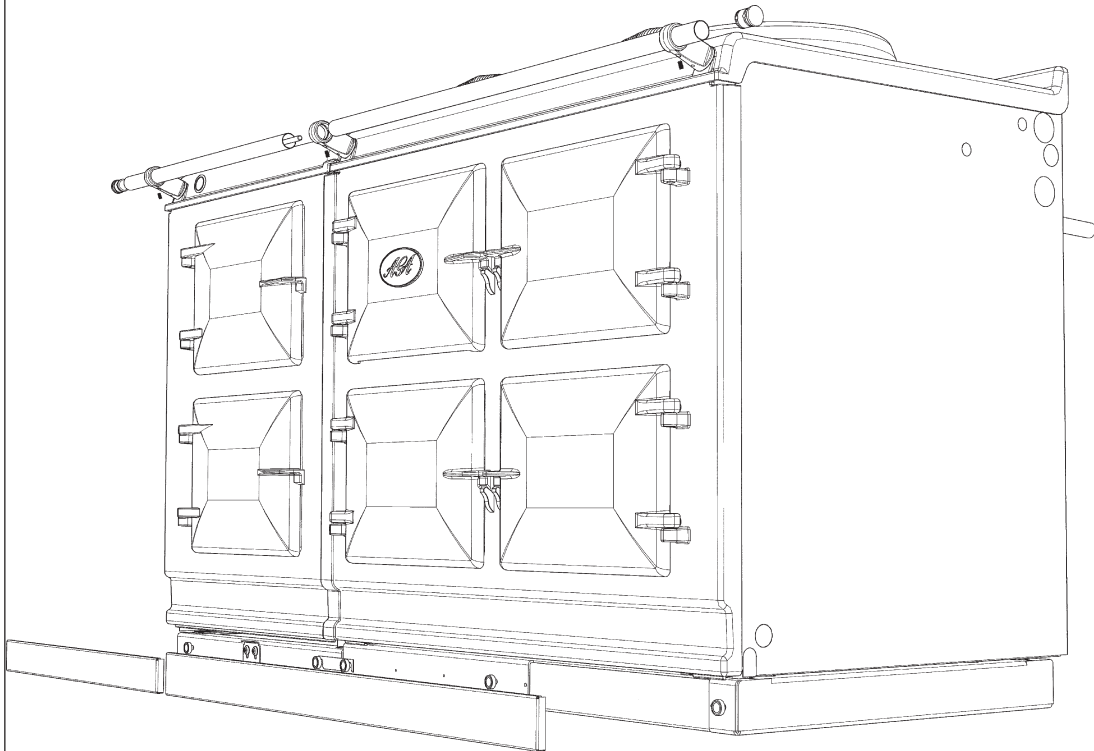

Fig. 20
11. On 5 oven appliances, fit allthread stud into the insert located in the one end of the handrail, then feed the handrail through the bracket (ensuring that the allthread stud is protruding from the right hand side of the hotcupboard handrail) and screw the handrails together. (See Fig. 20).
14. Finally, fit the plinth fascia to the magnets on the front of the plinth, making sure that on 5 oven appliances the right hand side of the module plinth fascia sits against the left hand side of the AGA Dual Control plinth fascia leaving no gap between. Make sure that the plinth facias are centrally located and do not overhang either appliance. (See Fig. 20)